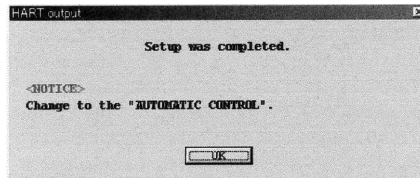

Fig.56
- ⑤ When the previous settings are replaced with the new settings just entered in response to clicking on "OK," a message box as shown in Fig. 56 appears. Clicking on "OK" button at this point completes the setup.